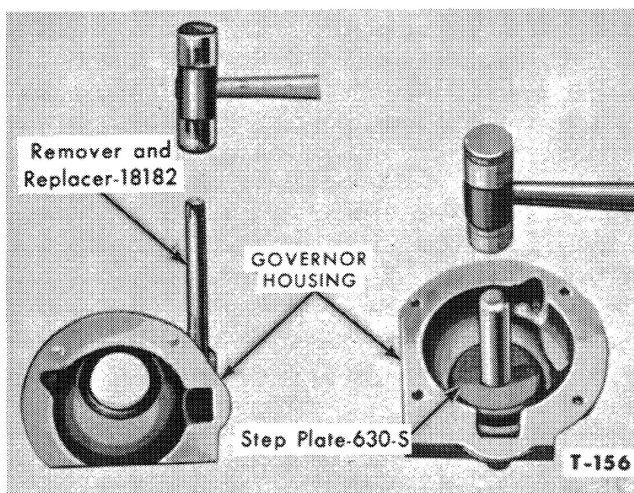

Figure 68—Removing or Installing Needle Bearings and Installing Crankshaft Oil Seal
5. Drive the needle bearings and seal from the governor housing or cylinder front cover with Remover and Replacer-18182, Figure 68.